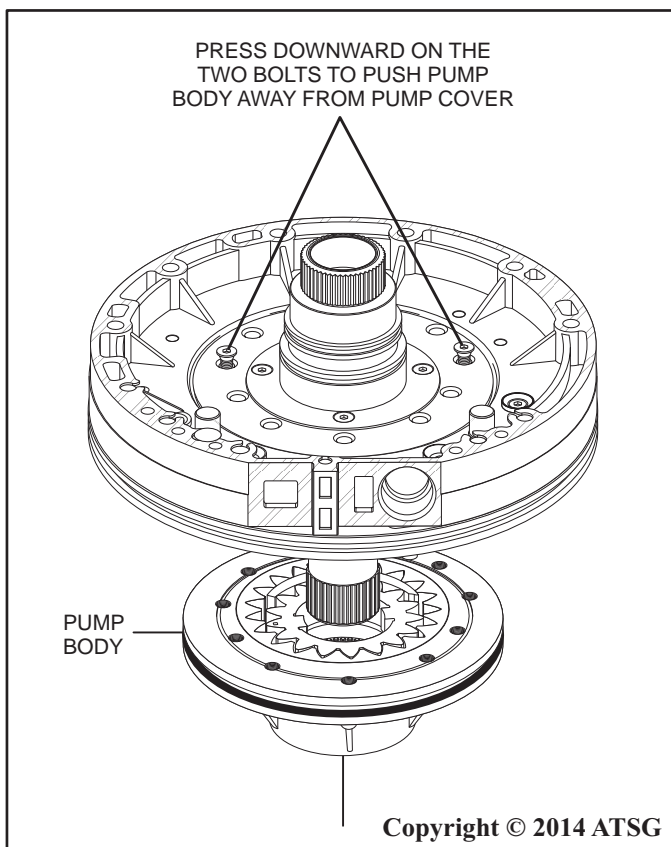

Figure 63
7. Press downward on the bolts remaining in the pump cover in order to push the pump body out of the pump cover as shown in Figure 63.